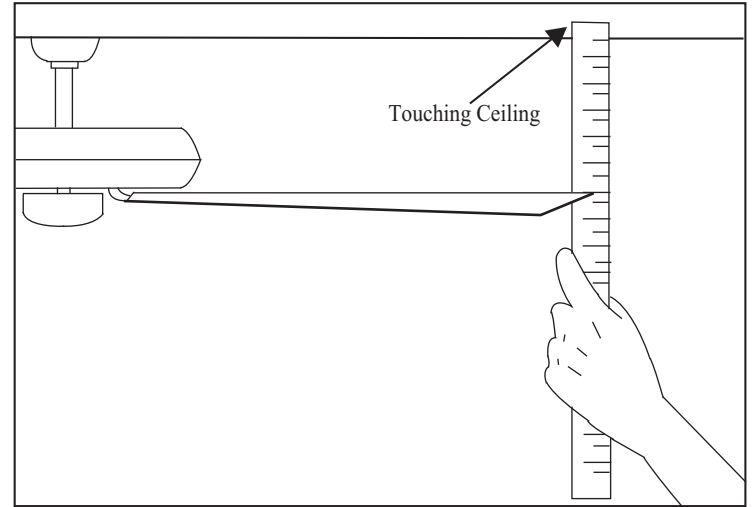

Figure 11
2. Most fan wobble problems are caused when blade levels are unequal. Check this level by selecting a point on the ceiling above the tip of one of the blades. Measure from a point on the center of each blade to the point on the ceiling. Measure this distance as shown in Figure 11. Rotate the fan until the next blade is positioned for measurement. Repeat for each blade. Measurements deviation should be within  $1/8"$ . Run the fan for 10 Minutes.